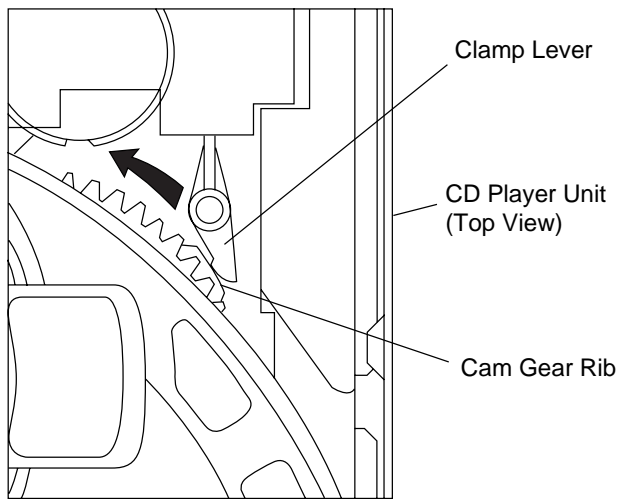

Figure 10-2
2. While holding the lock lever, rotate the cam gear anticlockwise until the cam gear rib engages with the clamp lever. (Fig. 10-2)